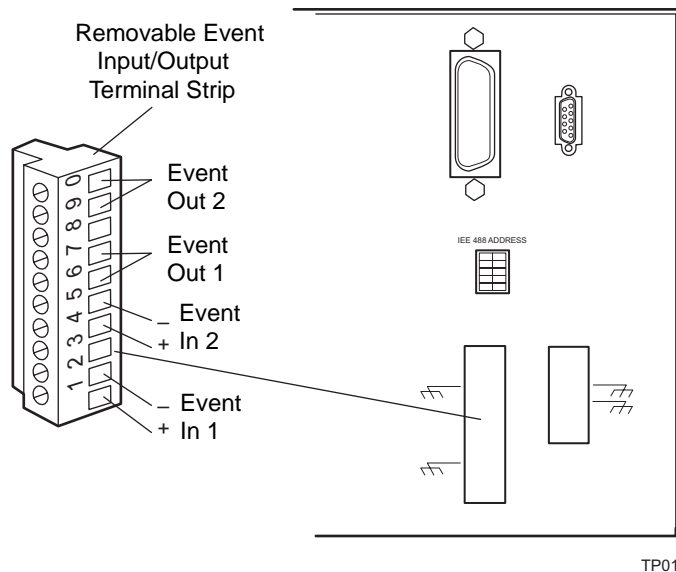

Figure 1-6 Event Input/Output Terminal Strip
Pull off the event terminal strip from the rear panel (Figure 1-6). This simplifies the following steps:
1. Insert the bare wires at one end of the event signal cable into the positive (+) and negative (-) slots of the appropriate event input or output terminal (Figure 1-6). Tighten the two screws to secure the + and - wires.